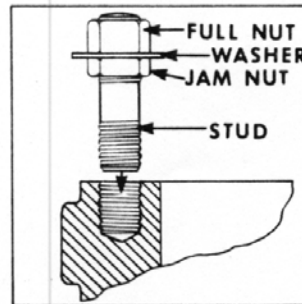

FIG. 2
The accepted method for stud installation is as follows: (1) First thread Jam Nut into stud. (2) Place flat washer on top of Jam Nut. (3) Thread Full Nut onto stud over washer. (Assembly shown in Fig. 2) After assembly, stud may be driven into tapped hole in the casting using either impact wrench or hand wrench. The washer prevents turning of the nuts and reduces thread stresses.